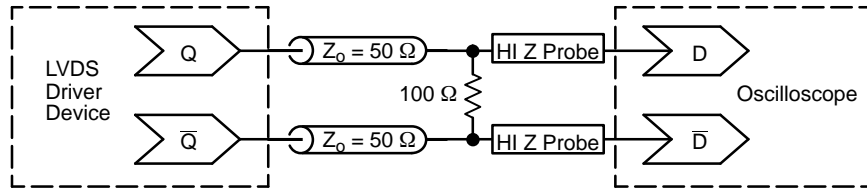

Figure 18. Typical LVDS Termination for Output Driver and Device Evaluation
4. LVDS outputs require 100 Ω receiver termination resistor between differential pair. See Figure 18.